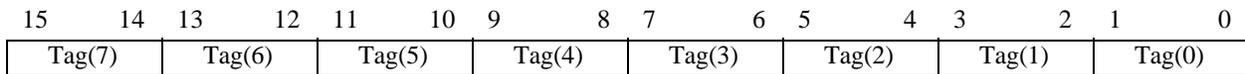

Figure 2-40. FPU Tag Word Register
**FPU Tag Word Register.** The Cyrix III CPU maintains a tag word register (Figure 2-40 (Page 2-114)) comprised of two bits for each physical data register. Tag Word fields assume one of four values depending on the contents of their associated data registers, Valid (00), Zero (01), Special (10), and Empty (11). Note: Denormal, Infinity, QNaN, SNaN and unsupported formats are tagged as "Special". Tag values are maintained transparently by the Cyrix III CPU and are only available to the programmer indirectly through the FSTENV and FSAVE instructions.